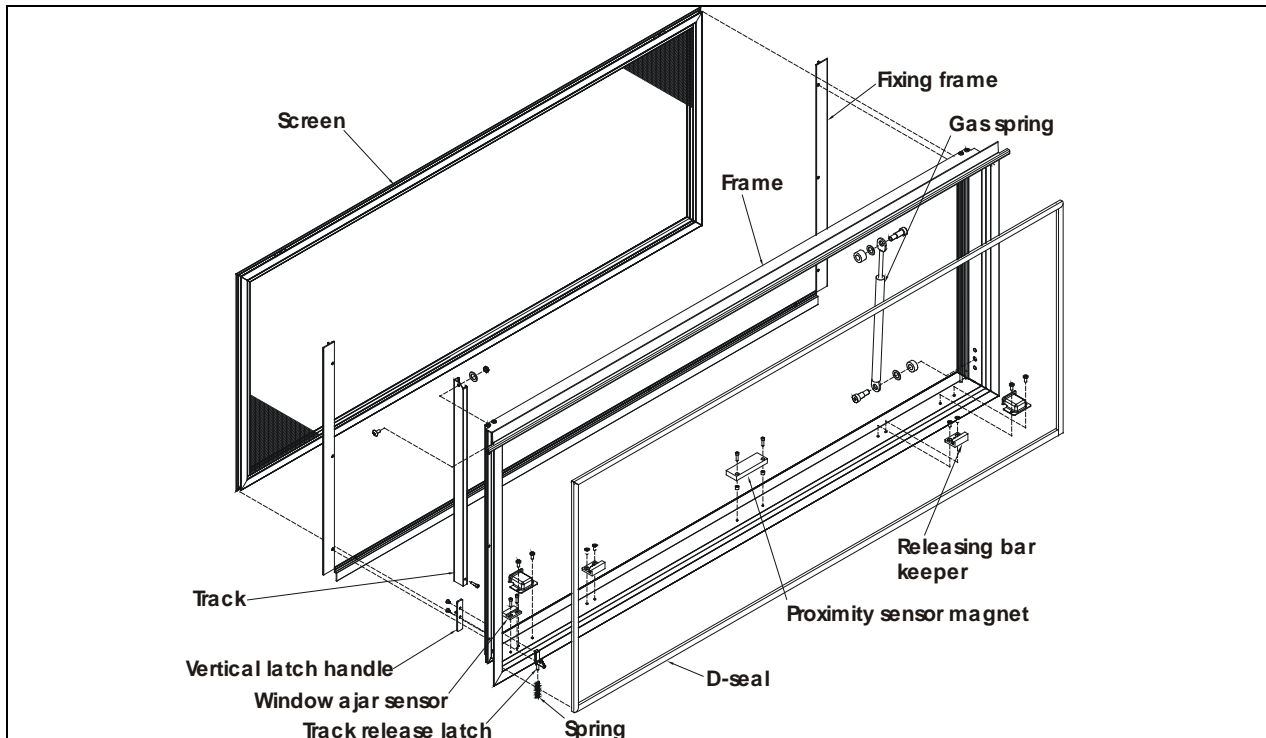

FIGURE 92: ELECTRIC AWNING WINDOW EXPLODED VIEW (FRAME) 18586
4. Loosen the set screws #5 (Figure 92) (rotate the arm to get to the second set screw) and disengage the swiveling arm from the motor shaft extension.